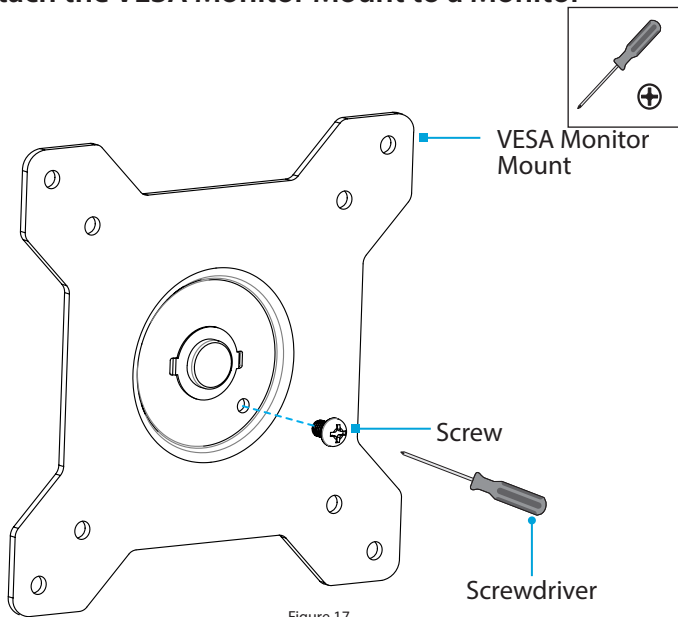

Figure 17
1. To enable 360 degree rotation of the **Monitor**, remove the **Screw**, located in the face of the **VESA Monitor Mount**, using a **Phillips Head Screwdriver**. (Figure 17)